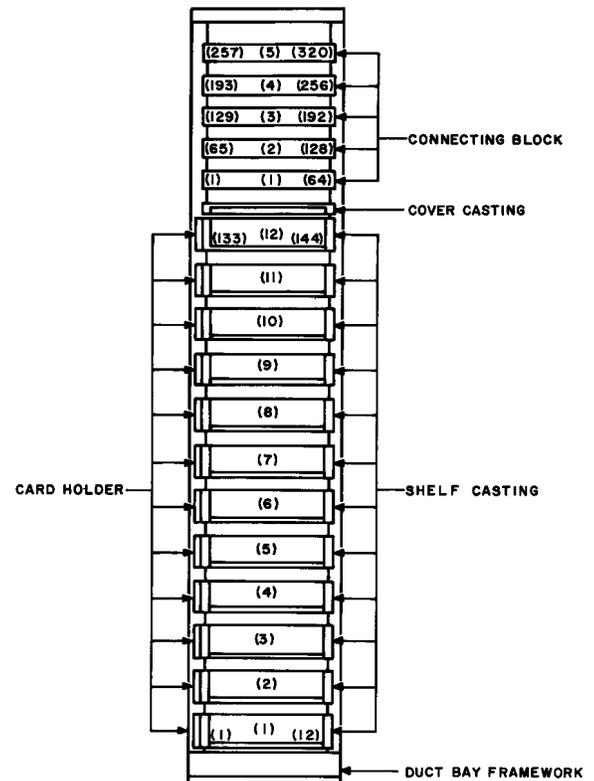

Fig. 2 — J99323C N2 Line Build-Out Bay Equipped with Line Protectors and Without Line Power Feed (11 Feet 6 Inches High by 26-3/8 Inches Wide)
2.08 The J99323C line build-out bay, shown in Fig. 2, is an 11-foot 6-inch bay with primary line protectors but *without* power feed arrangements. It is arranged to provide build-out equipment for 288 carrier pairs in aerial or buried cable facilities. A fully equipped bay will contain 12 mounting shelves for one hundred and forty-four J99323AA plug-in line build-out units without constant-current regulators and five 62A1A-64 connecting blocks to provide the primary protection for the cable pairs.
2.13 *The J99323H line build-out bay* is similar to the bay shown in Fig. 2 except that the equipment is reduced to fit into a 7-foot bay. The frame is equipped with primary line protectors but without power feed arrangements. It provides line build-out equipment for 168 carrier pairs in aerial or buried cable facilities. The fully equipped bay includes seven mounting shelves for eighty-four J99323AA line build-out units without constant-current regulators and two 62A1A-64 connecting blocks for primary protection of the cable pairs.
2.17 *The J99323S line build-out bay* is similar to the bay shown in Fig. 2 except that the equipment has been reduced to fit into a 9-foot bay. The frame is furnished with primary protectors but not with power feed arrangements. The bay provides line build-out equipment for 216 carrier pairs in aerial or buried cable facilities. The fully equipped bay includes nine mounting shelves for one hundred and eight J99323AA plug-in line build-out units without constant-current regulators, and four 62A1A-64 connecting blocks for primary protection of the cable pairs.